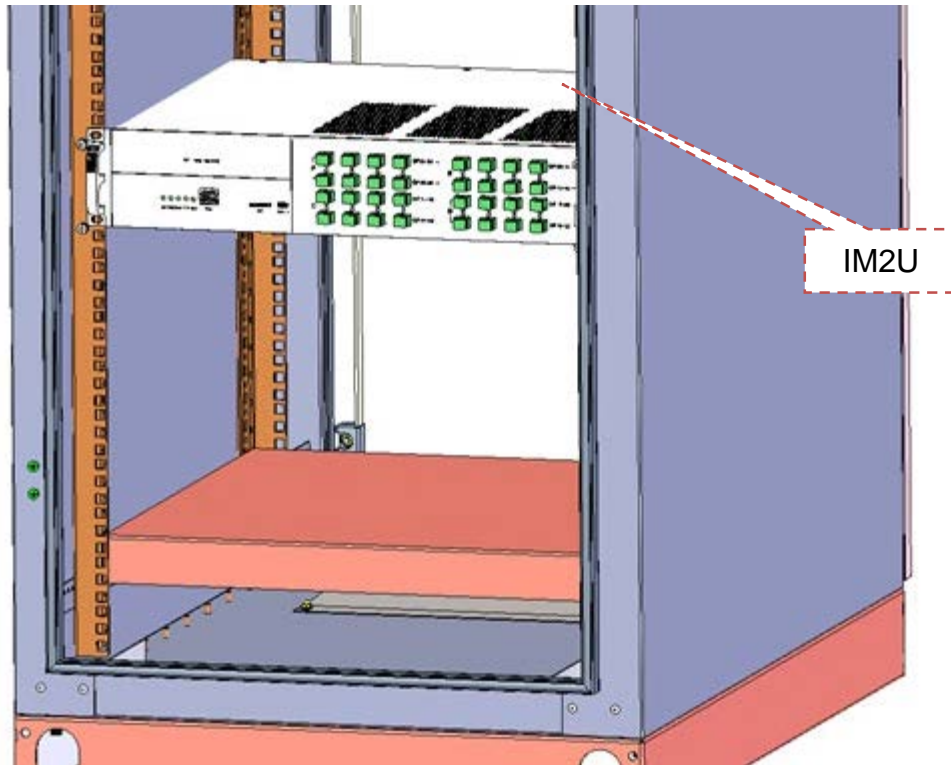

Figure 4-7 Push IM2U into the cabinet.
2. Push IM2U into the cabinet. as shown in Figure 4-7